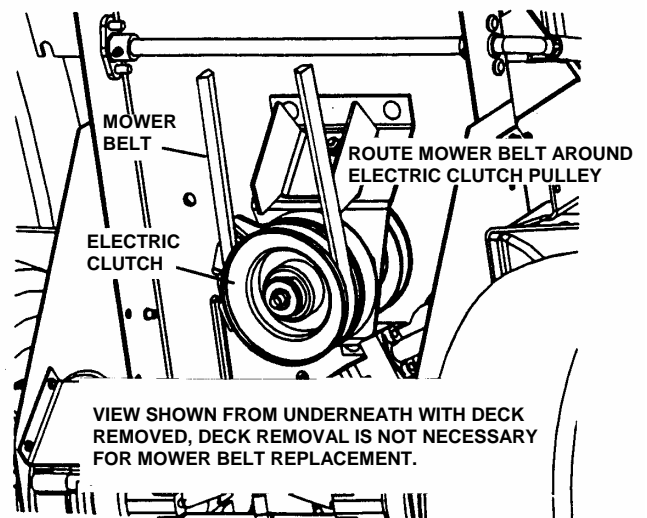

FIGURE 4.2
1. Route new belt around electric clutch pulley. See Figure 4.2.